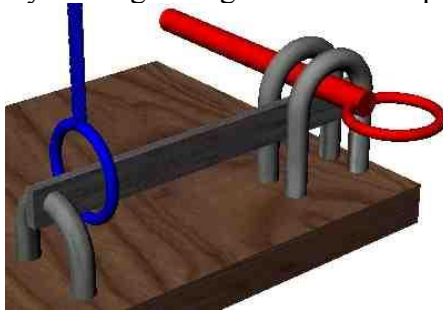
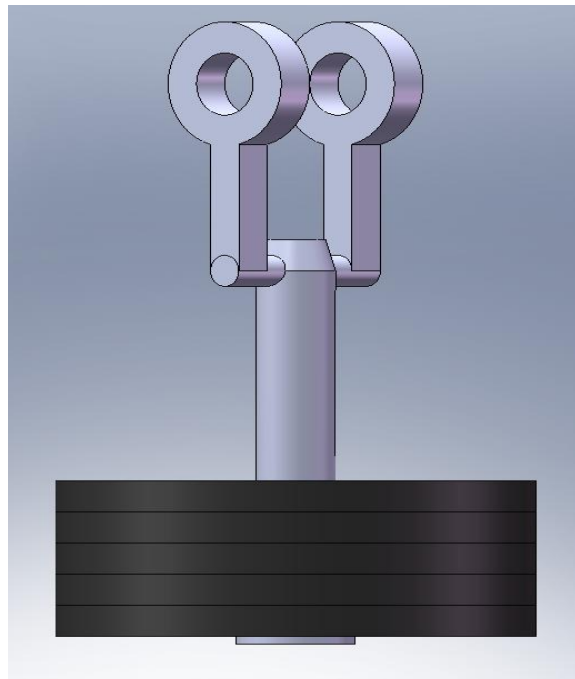

Figure 2. Triggering Device.
Figure 3. Counter Weight Design with Weights Attached.
- The device must be constructed so that it will accommodate the counterweight and release mechanism. The counter weight is about 18 inches across and about 2 ft in height. (Please see figure 2 for the release mechanism and figure 3 and 4 for the counter weight.) The team may not alter or construct their device to interfere with the triggering device in any way. Doing so is grounds for disqualifications.